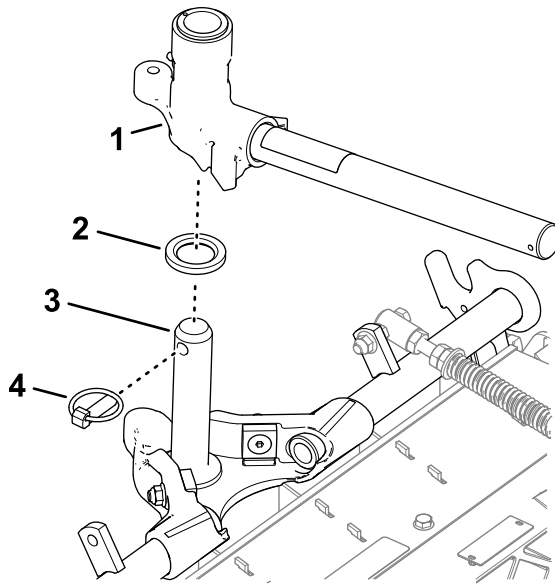

**Figure 30**
3. Slide a cutting unit under the lift arm (**Figure 30**).